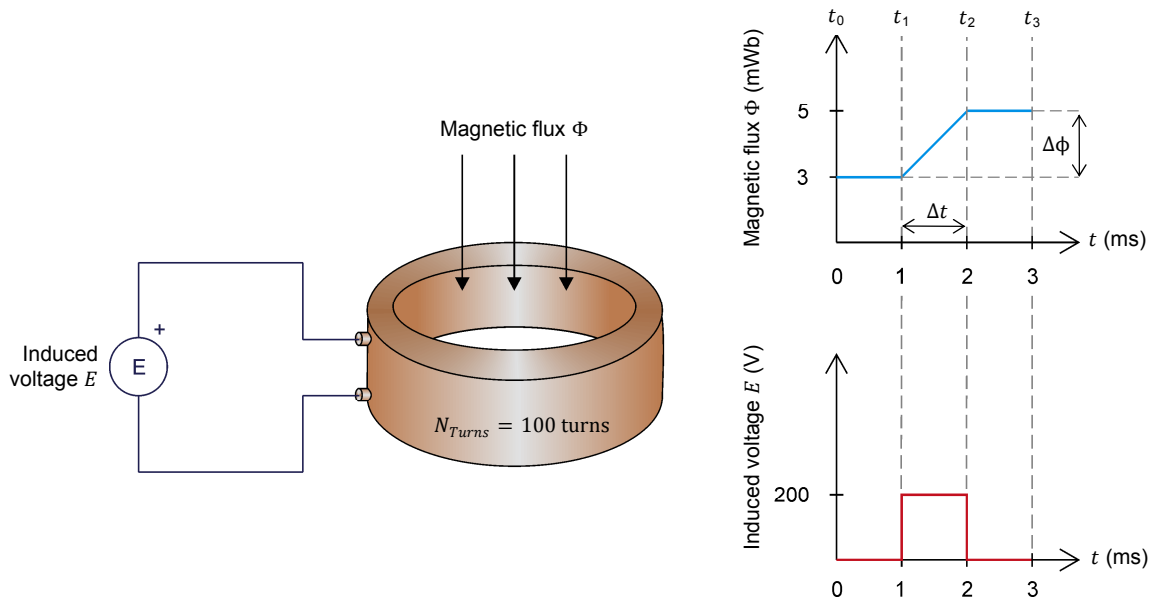

Figure 19. Voltage induced in a loop exposed to a magnetic flux varying in intensity.
Figure 19 gives an example of the voltage induced across a wire loop that is exposed to a magnetic flux varying in intensity. Between instants t_0 and t_1 , the intensity of the magnetic flux ϕ remains constant (3 mWb), and thus, the induced voltage is zero. Between instants t_1 and t_2 , the intensity of the magnetic flux ϕ increases at a constant rate, and thus, a constant voltage is induced in the wire loop. Between instants t_2 and t_3 , the intensity of the magnetic ϕ flux remains constant (5 mWb), and thus, the induced voltage is zero.
Using the values given in Figure 19, the voltage E induced across the coil between instants t_1 and t_2 can be calculated by using Equation (7):